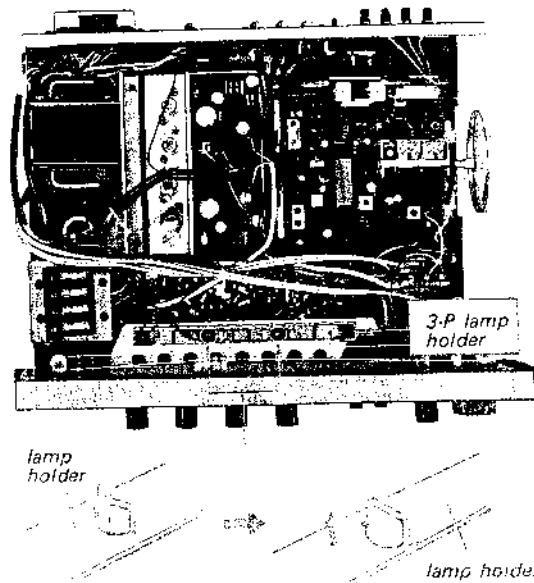

Fig. 2-13. Dial lamp replacement
1. Straighten the tab of the dial lamp shade to permit to removal of 3-p lamp holder as shown in Fig. 2-13. This frees dial lamp holder.